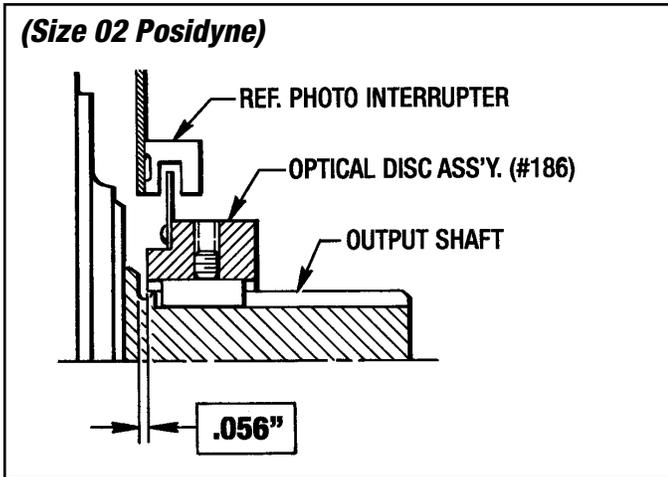

Figure 6.3 - Optical Disc and Hub Positioning (Size 02 Posidyne)
- Slide the Optical Disc Assembly (#186) onto the output shaft and position as shown in *Figure 6.3*. The positioning of this Optical Disc Assembly must be accurate.